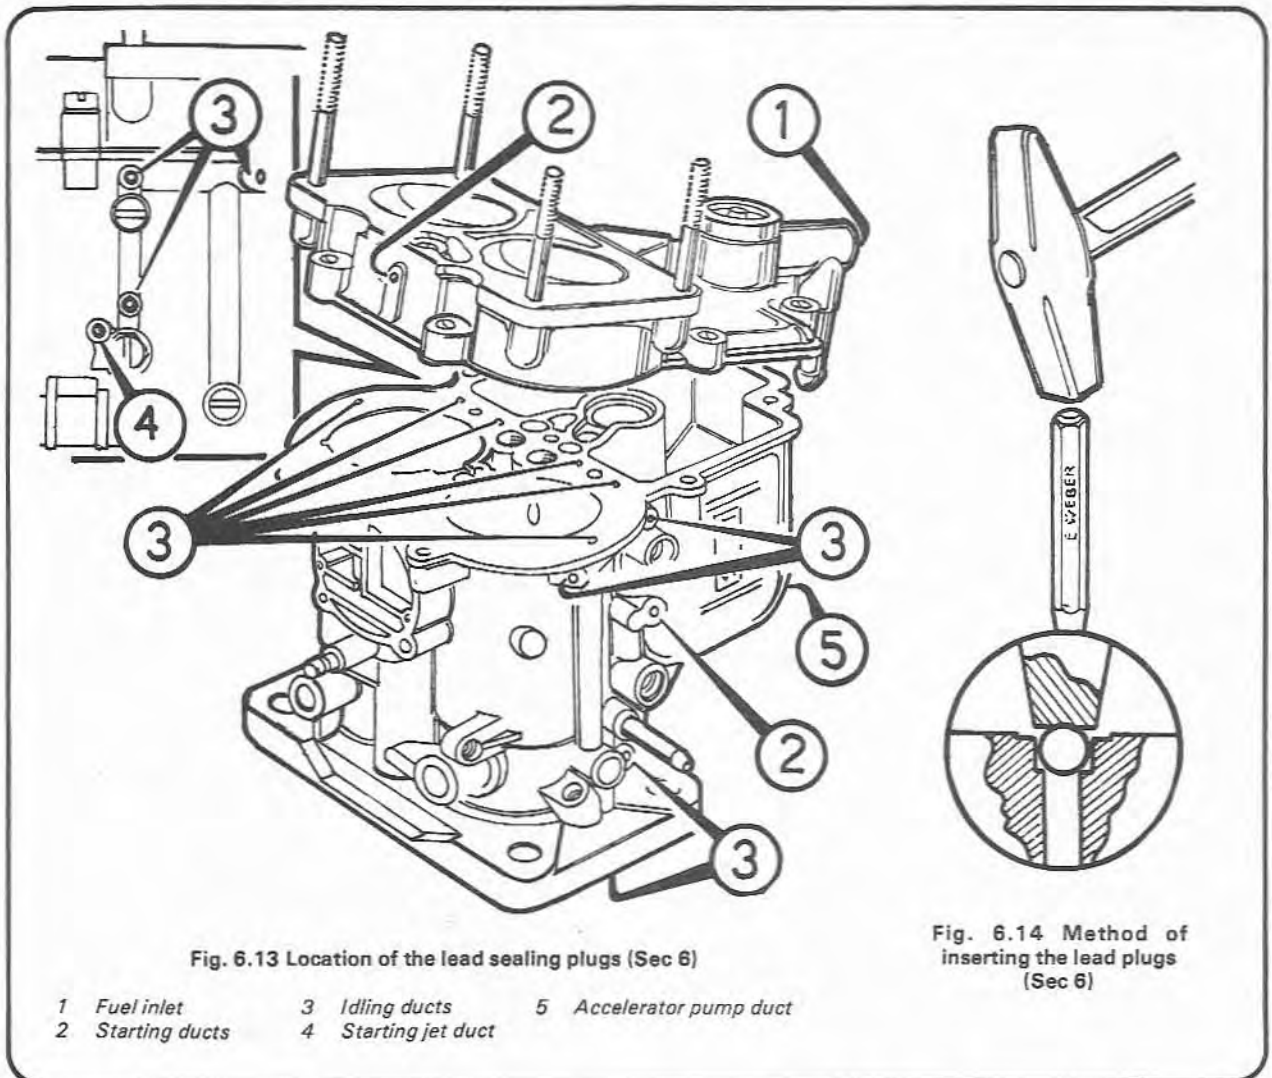

Fig. 6.13 Location of the lead sealing plugs (Sec 6)
7 Check the internal channels of the carburettor body (77) and cover (1), for blockage by injecting fuel with a syringe and observing that it emerges freely from the particular channel being tested. If any are blocked, the lead plugs as shown in Fig. 6.13 must be drilled out and the channels cleared and checked with the special Weber tool.